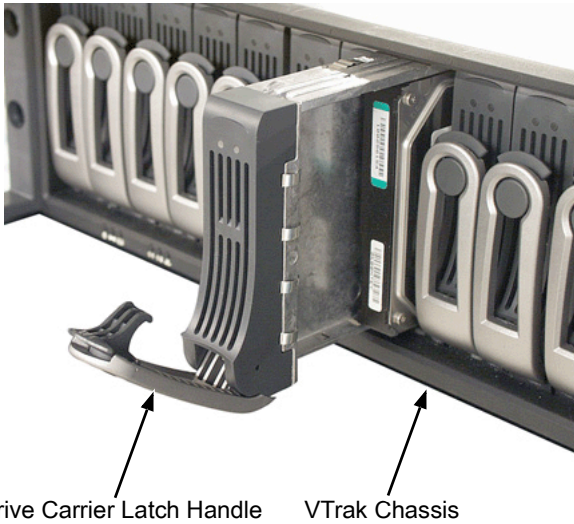

Figure 3. VTrak 15200 Disk Drive access
2. Carefully lay the converter into the drive carrier, with the SATA connection facing forward (see Figure 5), so that the screw holes on the bottom line up (see Figure 3).